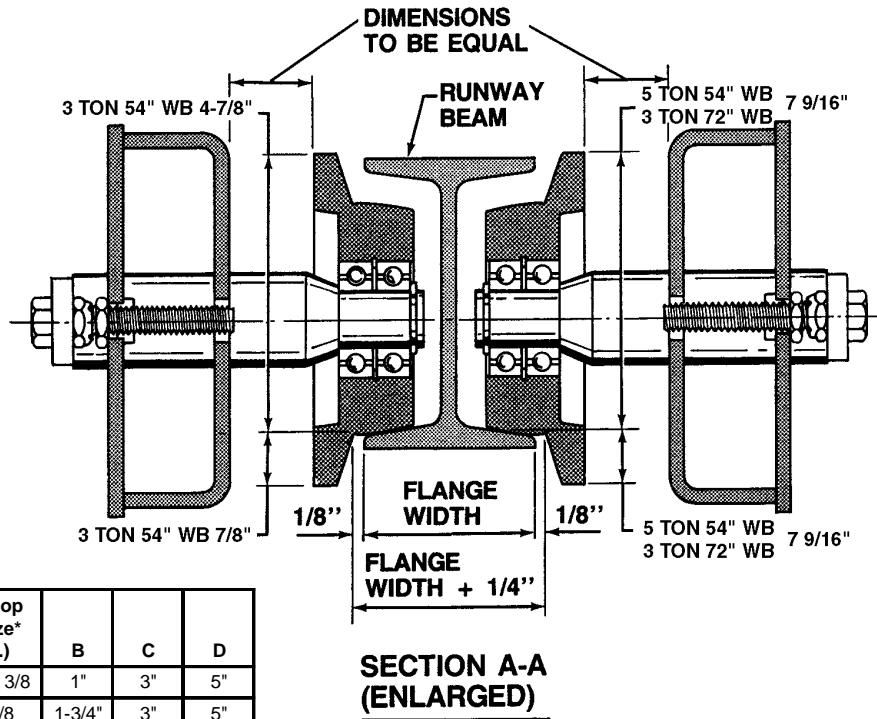

Figure 4.
2. Trolley Stops. Four (4) angles must be cut to size per Fig. 4.
- Scribe lines 1-1/2" from the toe of truck plates near center of trucks as shown in Figure 4.
- Locate center of truck and layout and scribe lines locating center of truck as well as hole locations (centered on truck centerline) given by dimension A in Figure 4.
10. Mount trolley stops to I-beam web in position shown in Figure 4. Stops may be welded or bolted in place. If bolted, drill holes using 21/32" diameter drill as indicated in Figure 4. 5/8" diameter bolts with self-locking nuts should be used to secure stops.
11. If it is desired to increase the rigidity of the bridge, four angles (one to each corner) may be added in the position shown (at 45° to the bridge I-beam) in Figure 4. On a motor driven crane it may be necessary to move the electrical enclosure for clearance reasons.
End stops per trolley stop table in Figure 4 may be used and installed per instructions given.
End stops per trolley stop table in Figure 4 may be used and Installed per Instructions given.